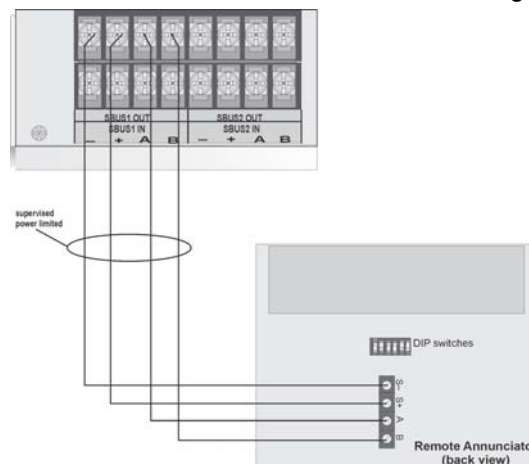

Figure 7: SBUS Connections
3. Wire the annunciator board to the main control panel. See Figure 7.
3. Connect wires from the RA-2000 to the SBUS connectors on the FACP. See Figure 7.
Wire the RA-2000 to the FACP as Shown in Figure 7.
3. Connect the RA-2000 to the panel (see Figure 7).